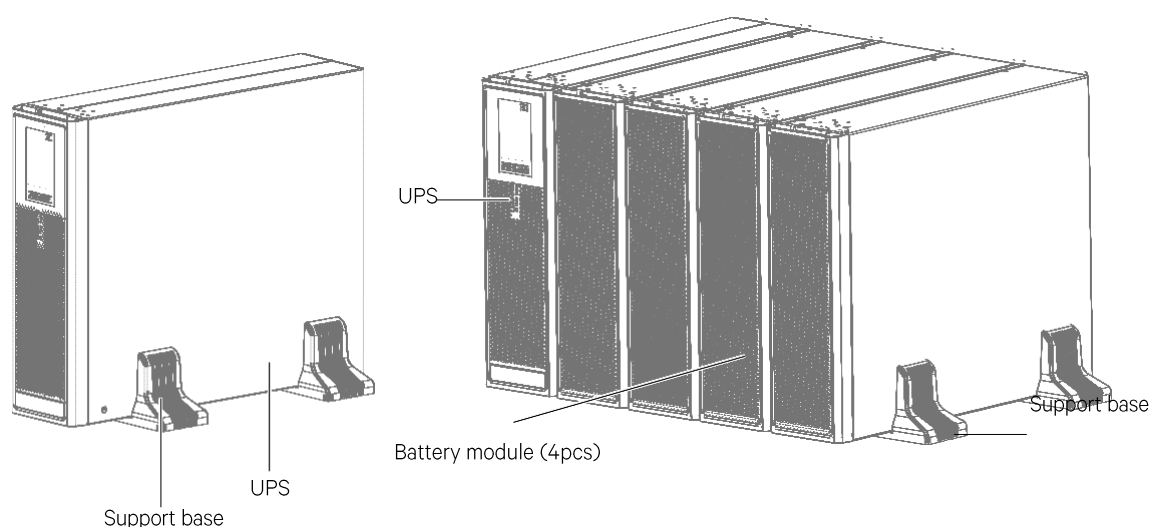

Figure 2-8 UPS and battery module Installation complete
3. Place the UPS on the support bases and support base extensions, as shown in Figure 2-8.